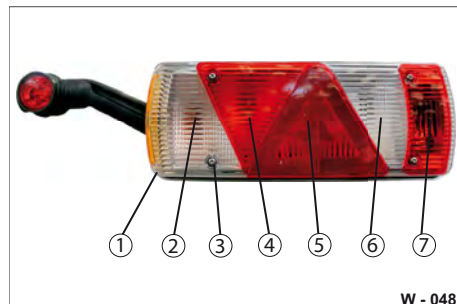

Fig. 56 Tail light components
- ▶ Unscrew the 4 fixing screws (Fig. 56/3).
- ▶ Remove the outer light lens (Fig. 56/1). Remove them carefully.